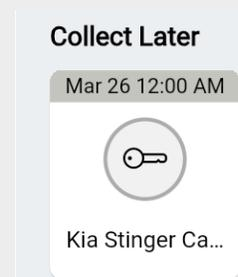

Fig. 150 – Collect later card
- 🔑 The top bar shows the time and date of the reservation, such as **Mar 26 12:00 AM**, as shown in Fig. 150.